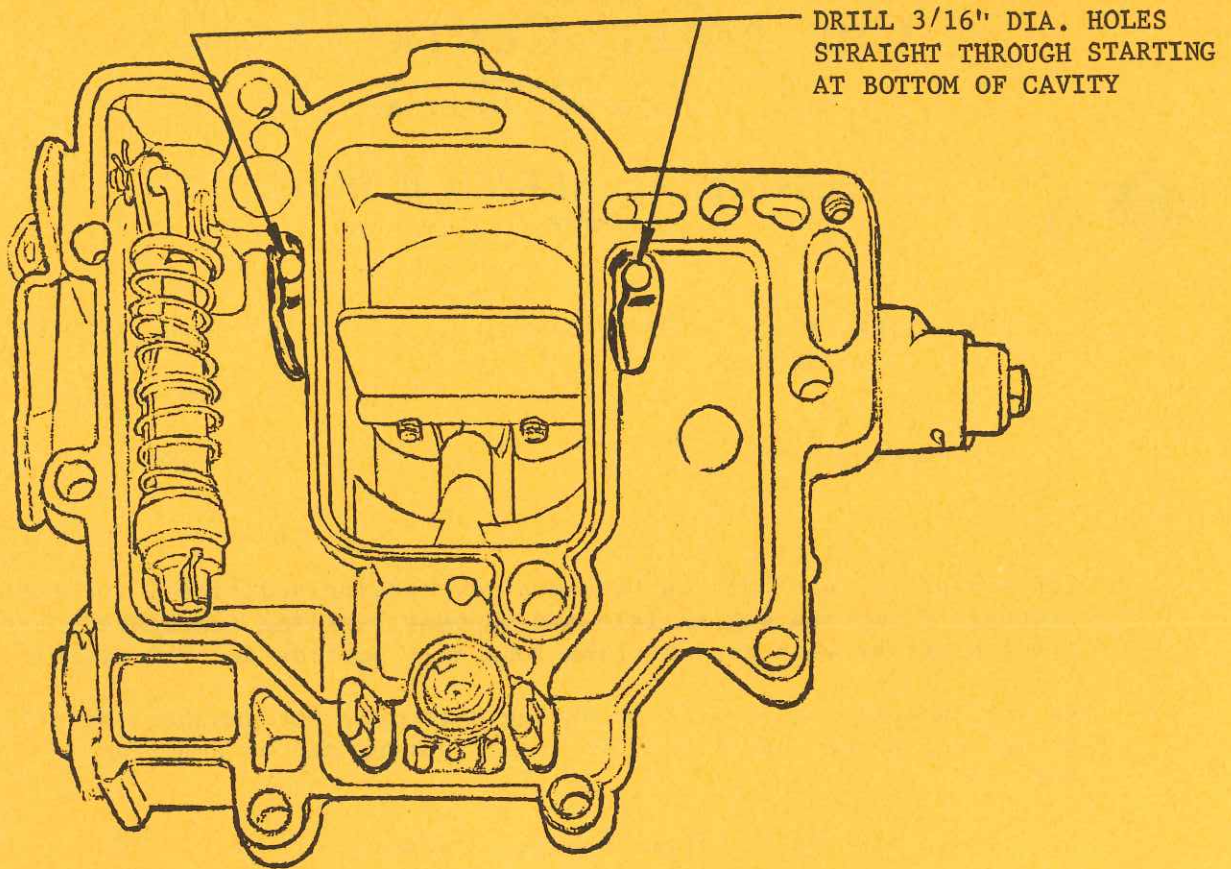
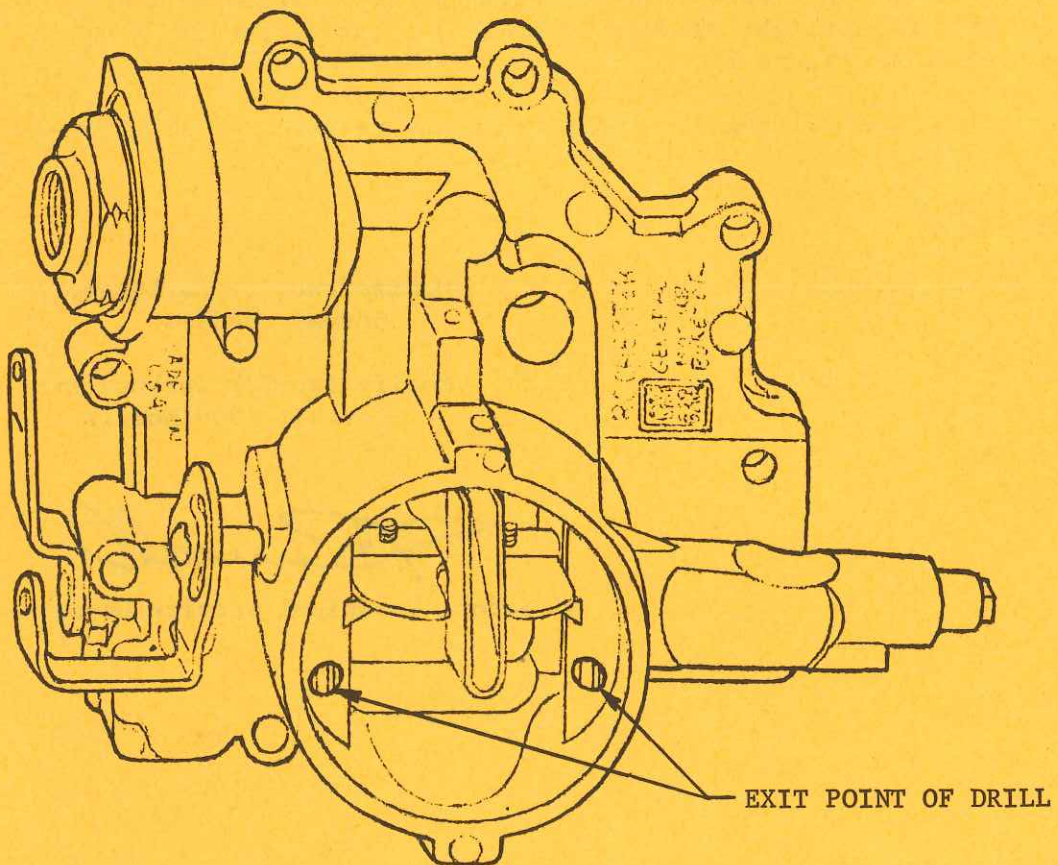

FIGURE 1
FIGURE 2
3. Drill two (2) 3/16" diameter holes in each bowl cover located as shown in Figure 1 on the reverse side. Holes must be drilled straight through to break out inside the air horn as shown in Figure 2.